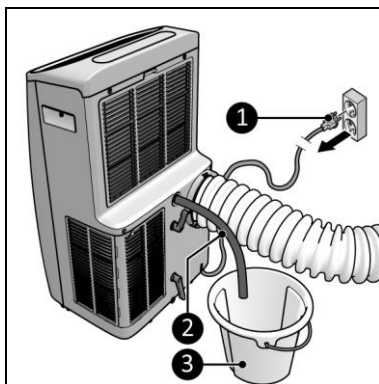

Figure 14
2. If heating for a longer period, install the water drain hose (Figure 14).
1. Make sure the device is switched off and the plug is removed from the power outlet (Figure 14, pos. 1).
3. Connect the included water drain hose to the drain of the device (Figure 14, pos. 2).
4. Place the outlet of the water drain hose in a bucket (Figure 14, pos. 3).
If heating for a longer period, install the water drain hose (Figure 14).